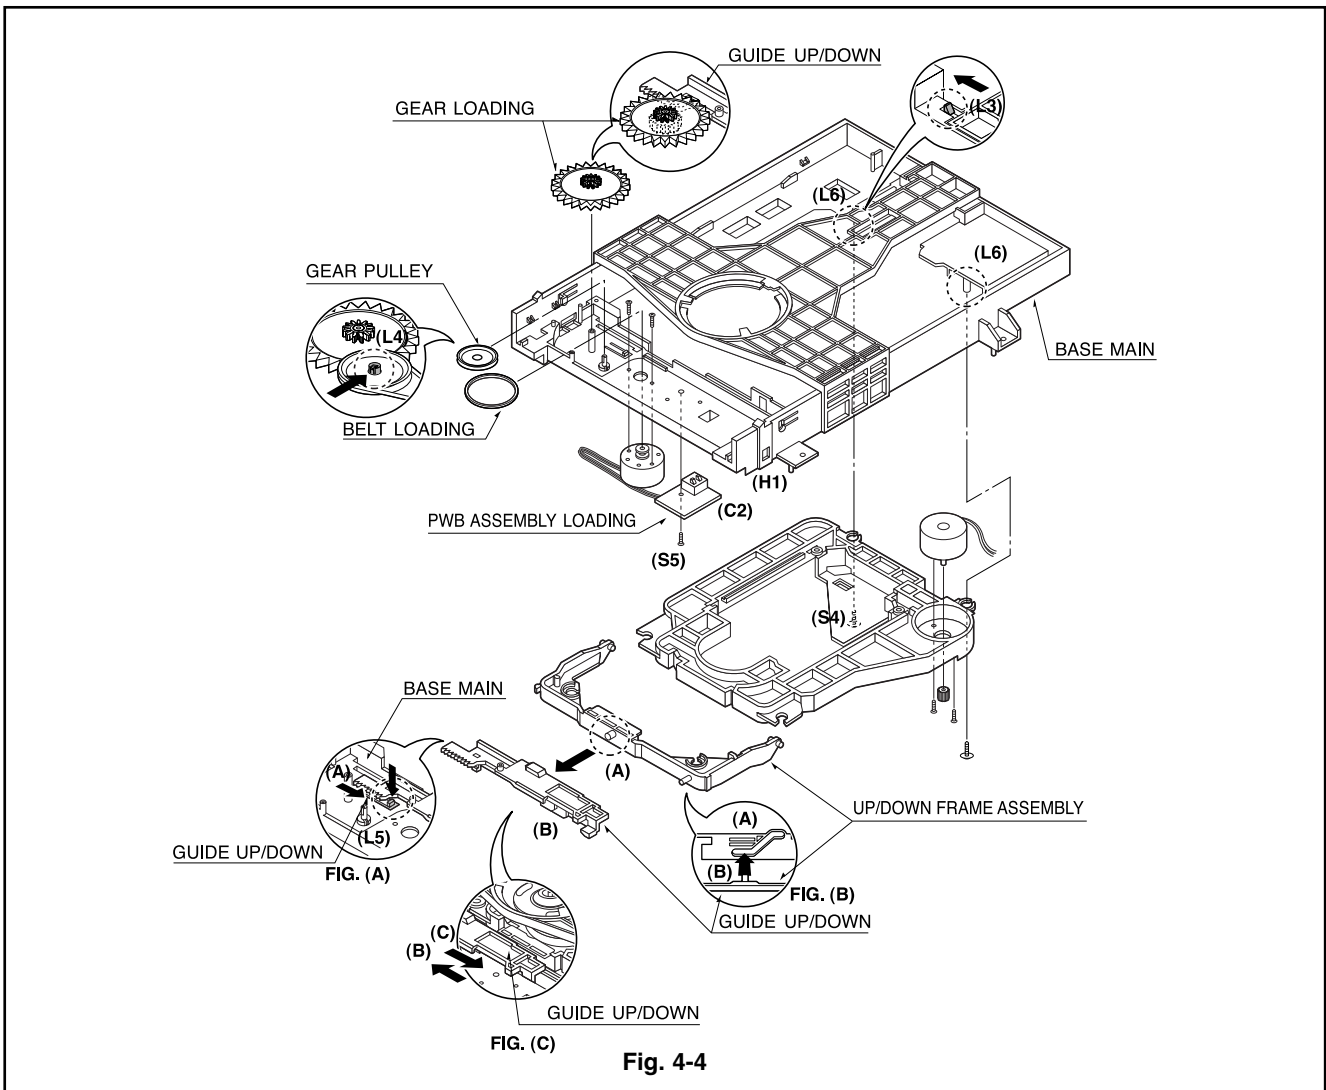

Fig. 4-4
5. Frame Assembly Up/Down (Fig. 4-4)
- When reassembling move the Guide Up/Down in direction of arrow(C) until it is positioned as Fig.(C).
- When reassembling insert (A) portion of the Frame Assembly Up/Down in the (B) portion of the Guide Up/Down as Fig.(B)
6. Belt Loading(Fig. 4-4)
7. Gear pulley (Fig. 4-4)
- 1) Unlock the Locking Tab(L4) in direction of arrow(B) and then separate the Gear Pulley from the Base Main.
8. Gear Loading (Fig. 4-4)
9. Guide Up/Down (Fig. 4-4)
10. PWB Assembly Loading (Fig. 4-4)
11. Base Main(Fig. 4-4)